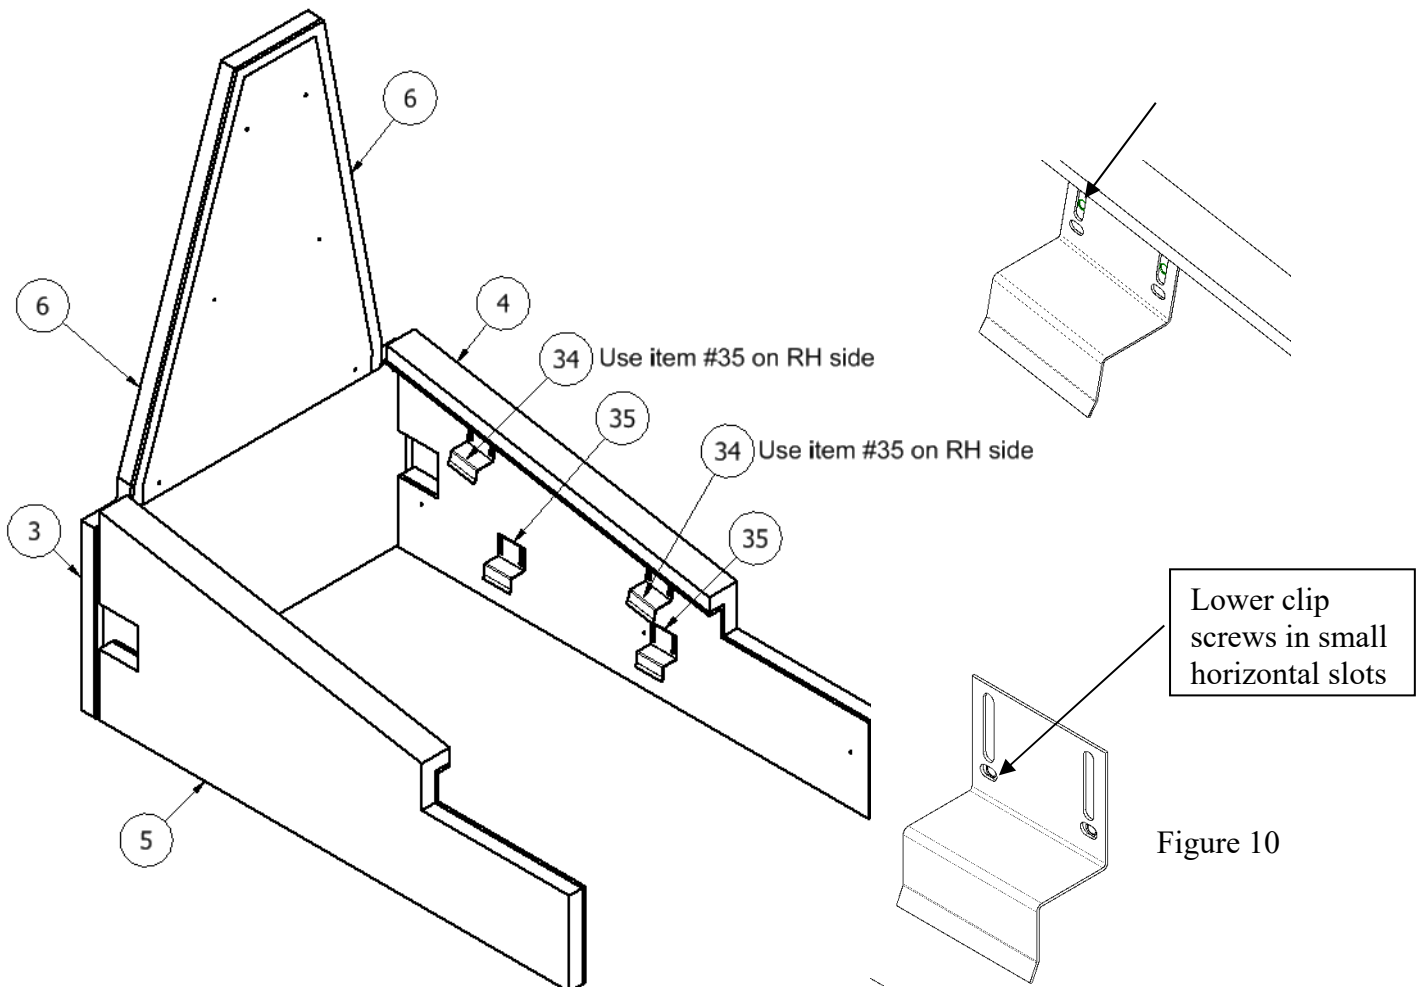

Figure 10
38. Install Pads Clips, item (34 & 35) to side pads as shown in figure 10 using 1/4-20 screws and flat washers, item (36 & 30). Assemble hardware in small horizontal slot on lower clips and vertical slot on upper clips. Note that only the upper LH side uses a wider clip. **Do not over torque hardware.**